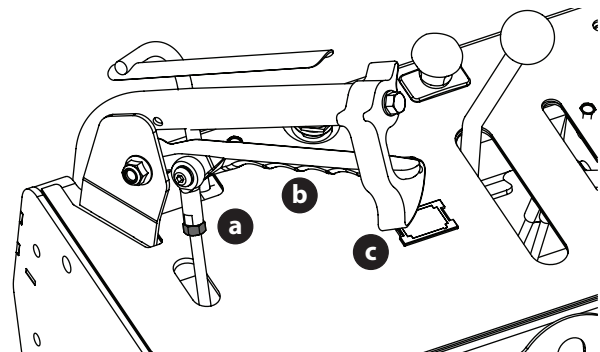

Figure 29
6. Loosen the jam nut (a) and adjust the rod until the steering lever (b) is seated in the neutral lock lever (c) (Figure 29).